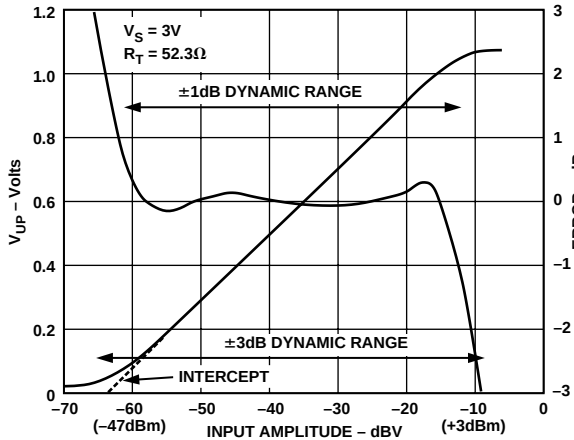

Figure 29. V_{UP} and Log Conformance Error vs. Input Level vs. Input Level at 900 MHz
*Refer to Figure 29.
The measurement mode is selected by connecting VSET to V_UP, which establishes a feedback path and sets the logarithmic slope to its nominal value. The peak voltage range of the measurement extends from -58 dBV to -13 dBV at 0.9 GHz, and only slightly less at higher frequencies up to 2.5 GHz. Thus, using the 50 Ω termination, the equivalent power range is -45 dBm to 0 dBm. At a slope of 21.5 mV/dB, this would amount to an output span of 967 mV. Figure 29 shows the transfer function for V_UP at a supply voltage of 3 V, and input frequency of 0.9 GHz.
While V_DN can deliver up to 6 mA, the load resistance on V_UP should not be lower than 10 kΩ in order that the full-scale output of 1 V can be generated with the limited available current of 200 μA max. Figure 29 shows the logarithmic conformance under the same conditions.
The transfer function of the AD8314 is characterized in terms of its Slope and Intercept. The logarithmic slope is defined as the change in the RSSI output voltage for a 1 dB change at the input. For the AD8314, slope is nominally 21.5 mV/dB. So a 10 dB change at the input results in a change at the output of approximately 215 mV. The plot of Log-Conformance (Figure 29) shows the range over which the device maintains its constant slope. The dynamic range can be defined as the range over which the error remains within a certain band, usually ± 1 dB or ± 3 dB. In Figure 29, for example, the ± 1 dB dynamic range is approximately 50 dB (from -13 dBV to -63 dBV).
The intercept is the point at which the extrapolated linear response would intersect the horizontal axis (Figure 29). Using the slope and intercept, the output voltage can be calculated for any input level within the specified input range using the equation: